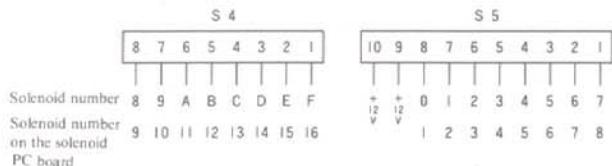

Figure 9-2
- ② Check the resistance between pin 9 or 10 of the S5 connector and the pin of the connector which corresponds to the unenergised armature. (Refer to figure 9-2. In picture 9-1, there is a problem in pin 10 of S5 or pin 9 and pin 4 of S4). Resistance should be within $140 - 150 \Omega$. If it is not, there is a problem, which may be found with the check given below. If no problem is found in the resistance values, perform the check given in 9.5.